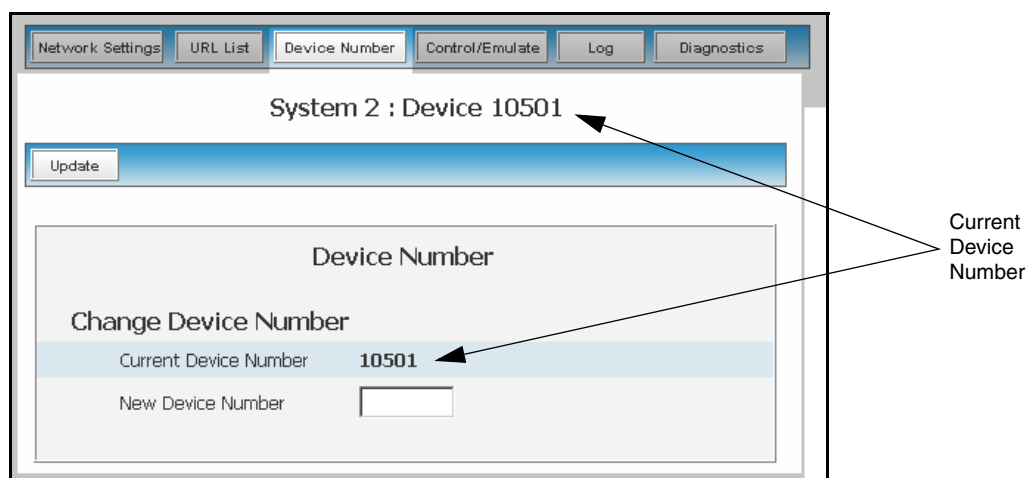

FIG. 70 Device Number dialog
3. Click the **Device Number** button to open the Device Number (FIG. 70). This dialog allows the user to change the device number for the selected device.